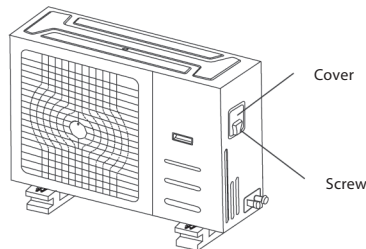

Fig. 5.1
2. Remove the electric cover of the outdoor unit. If there is no cover on the outdoor unit, disassemble the bolts from the maintenance board and remove the protection board. (See Fig. 5.1)